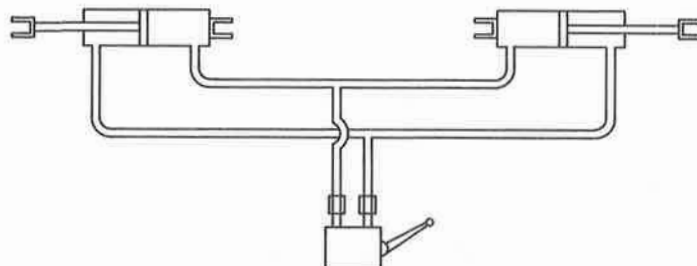

Fig. 4 Two Cylinder Wing Lift Circuit
Fig. 4 shows a simple two (2) cylinder circuit used to fold a pair of wings. This system is used on Wil-Rich chisel plows with a single pair of folding wings.